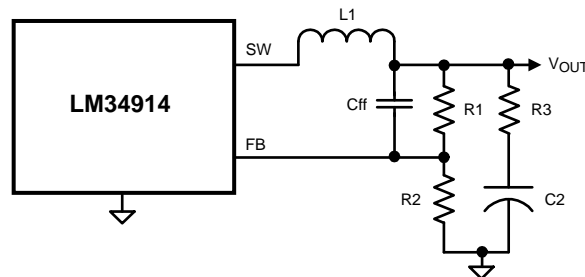

Figure 11. Reduced Ripple Configuration
a) Reduced ripple configuration: In Figure 11, Cff is added across R1 to AC-couple the ripple at V_{OUT} directly to the FB pin. This allows the ripple at V_{OUT} to be reduced to a minimum of 25 mVp-p by reducing R3, since the ripple at V_{OUT} is not attenuated by the feedback resistors. The minimum value for Cff is determined from: